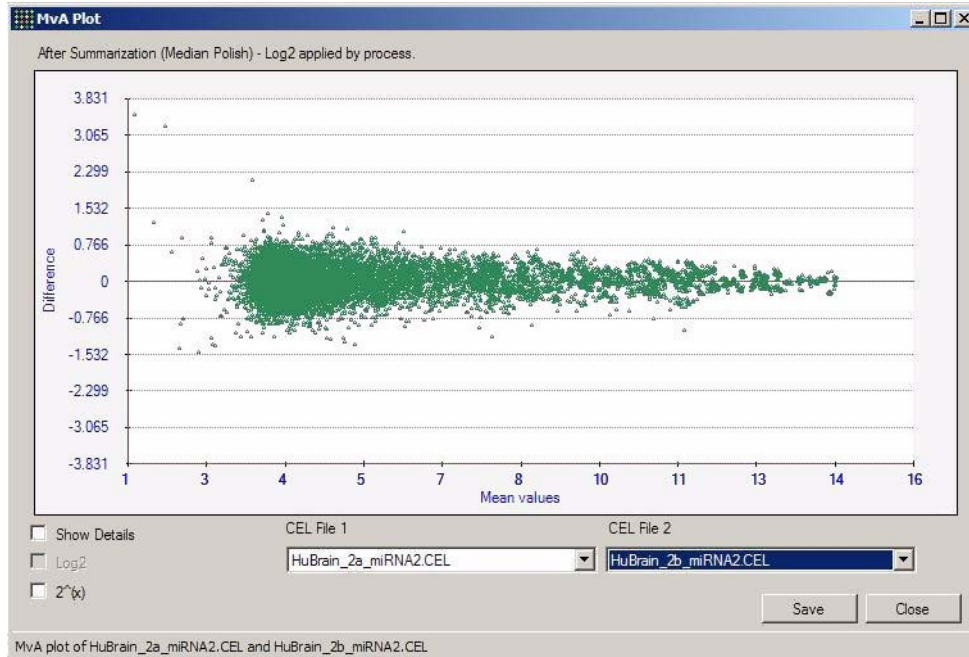

Figure 3.11 Sample of MvA plot for two CEL files
The MvA plot compares two experimental groups of samples. It shows the changes in expression between two groups as a function of the average expression level of both groups. Each spot represents a unique product (miRNA, snoRNA) as probe or probe set, depending on the analysis stage. The vertical axis is the log₂ fold-change, computed as the difference between the means (M) of the two samples¹. The horizontal axis shows the mean normalized signal (A) computed as the average of both samples (CEL files). The user can access this feature through the **MvA Plots** option on the **Graphs** menu. Figure 3.11 shows an MvA plot window.